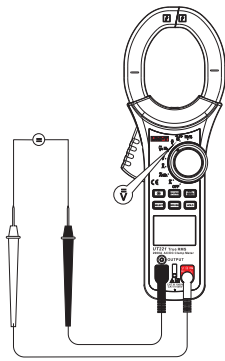

Figure 3
1. DC voltage measurement () (See Figure 3)